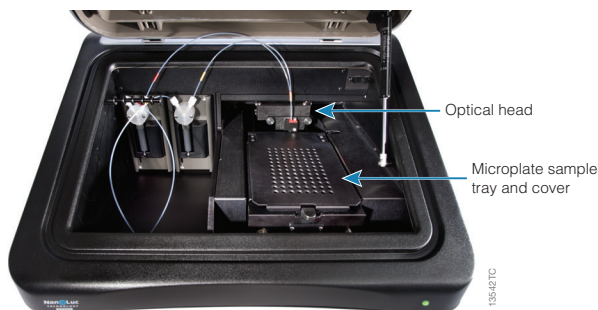

Figure 93. Interior of the GloMax® Navigator instrument.
2. Push the Microplate Sample Tray to the back of the instrument and push the Optical Head from the Home position toward the center of the instrument (Figure 93).
9. Return the Optical Head to the Home position by pushing the Optical Head from the center of the instrument all the way to the right side of the instrument (Figure 93).
3. Push the Microplate Sample Tray to the back of the instrument, exposing two steel guide rails upon which the sample tray glides (Figure 93). Use a Kimwipes® tissue dampened with 70% ethanol to clean the guide rails.
11. Return the Optical Head to the Home position by pushing the Optical Head from the center of the instrument all the way to the right side of the instrument (Figure 93).